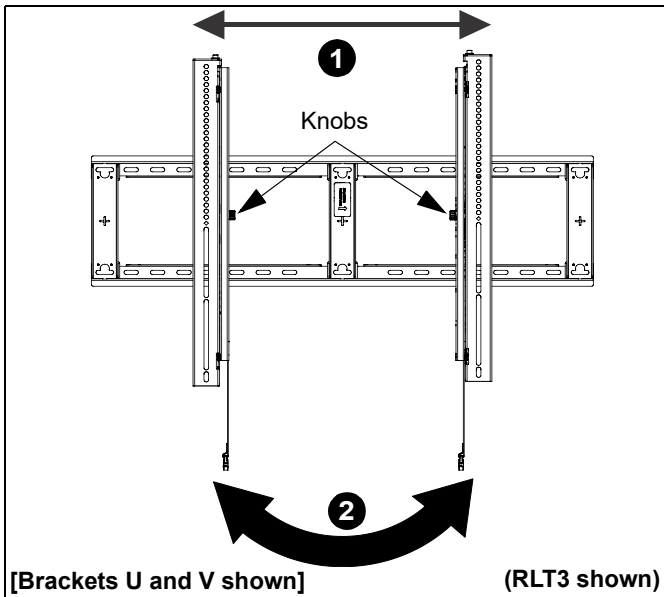

Figure 11
1. The wall brackets may be adjusted side to side at the point of attachment. (See Figure 11)
2. The location of the left and right interface brackets (S and T or U and V) may be switched, with the knobs on the RMT3/RLT3 interface brackets (U and V) facing the inside of the mount. (See Figure 11)